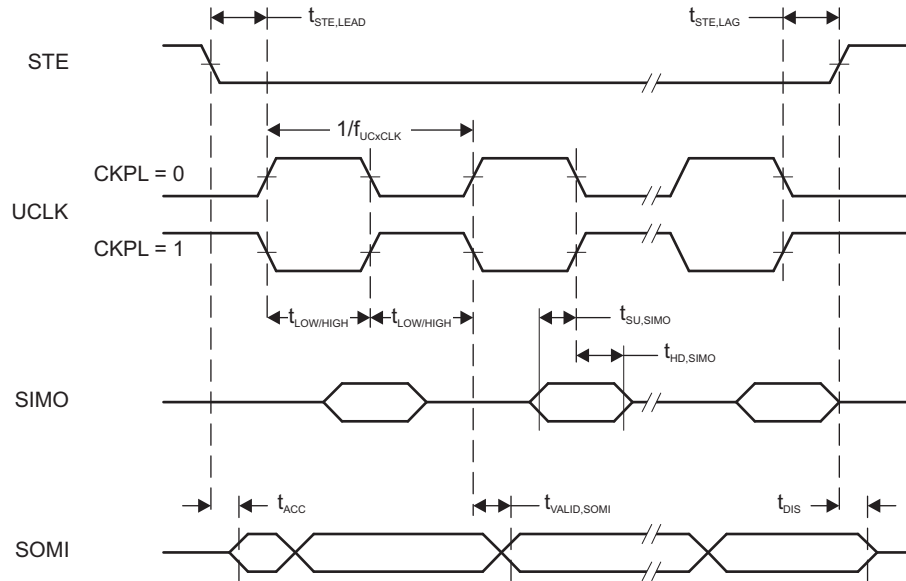
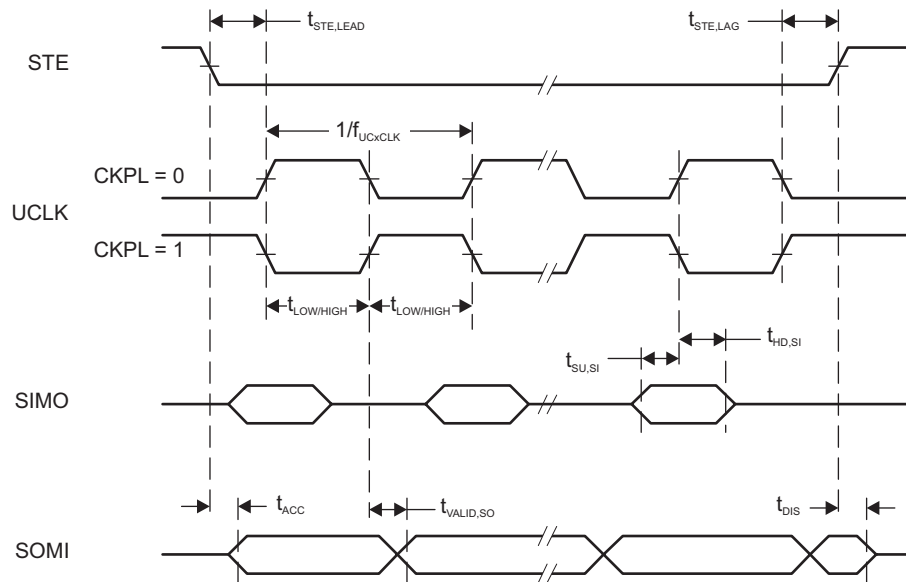

Figure 5-11. SPI Slave Mode, CKPH = 0
Figure 5-12. SPI Slave Mode, CKPH = 1
(1) $f_{UCxCLK} = 1/2t_{LO/HI}$ with $t_{LO/HI} \geq \max(t_{VALID,MO(Master)} + t_{SU,SI(eUSCI)}, t_{SU,MI(Master)} + t_{VALID,SO(eUSCI)})$ For the master parameters $t_{SU,MI(Master)}$ and $t_{VALID,MO(Master)}$, see the SPI parameters of the attached master.(2) Specifies the time to drive the next valid data to the SOMI output after the output changing UCLK clock edge. See the timing diagrams in Figure 5-11 and Figure 5-12.(3) Specifies how long data on the SOMI output is valid after the output changing UCLK clock edge. See the timing diagrams in Figure 5-11 and Figure 5-12.